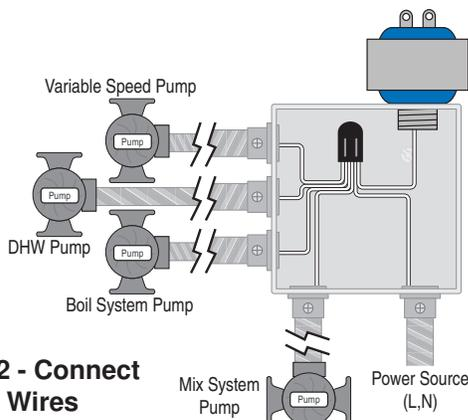

Figure 2 - Connect Neutral Wires
2. Connect the Neutral (N) wires from each pump and wire to the 115 V (ac) Neutral (N) wire. If the transformer has been mounted to this electrical box, connect its neutral wire with this group. This is shown in Figure 2.